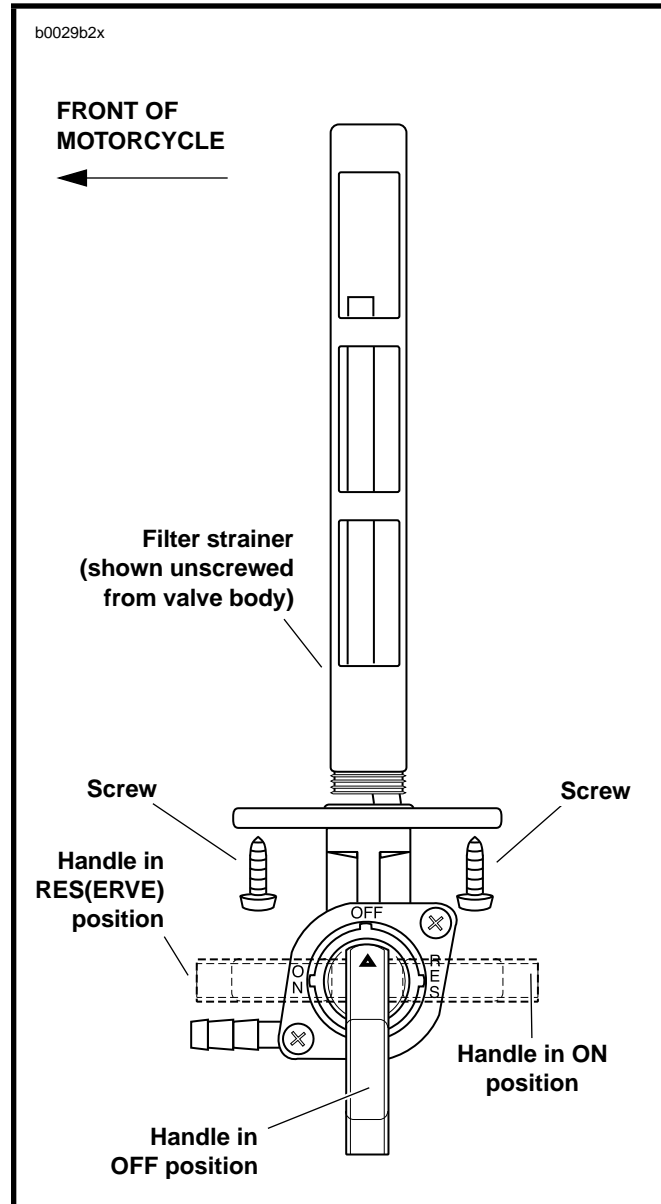

Figure 58. Fuel Valve
2. See Figure 58. After adding gasoline, check for smooth operation of the fuel valve.